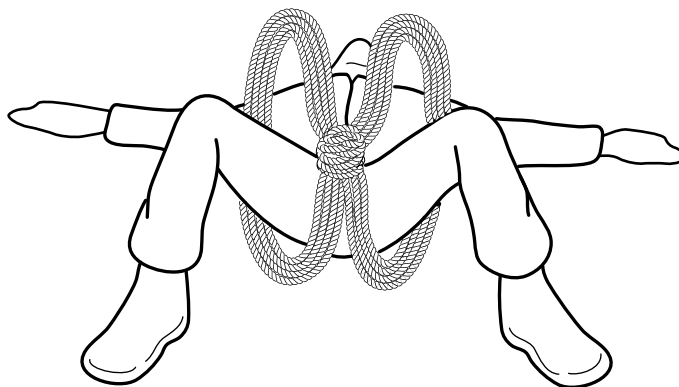

Figure 8-2. Rope Coil Carry Rope Placement.
- The bearer separates the loops of the mountain coil into two approximately equal groups and then slips one-half of the coil over the casualty's left leg and one-half over their right leg so that the wraps holding the coil are in the casualty's crotch and the loops extend upward toward the armpits (see Figure 8-2).